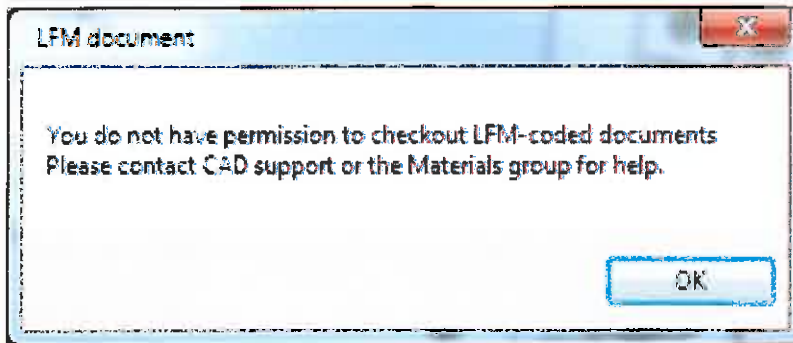

Figure 1
- 6.1.2 If determined Masking is required; CAD administration will be notified to Mask the file and attach the graphic above (Figure 1).
- 6.2.1 When accessing a file and the graphic (Figure 1) appears, determine the need